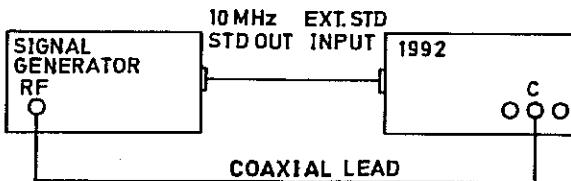

Fig 7.13 Connections for Channel C Input System Adjustment
- 37      Connect the test equipment as shown in Fig 7.13.